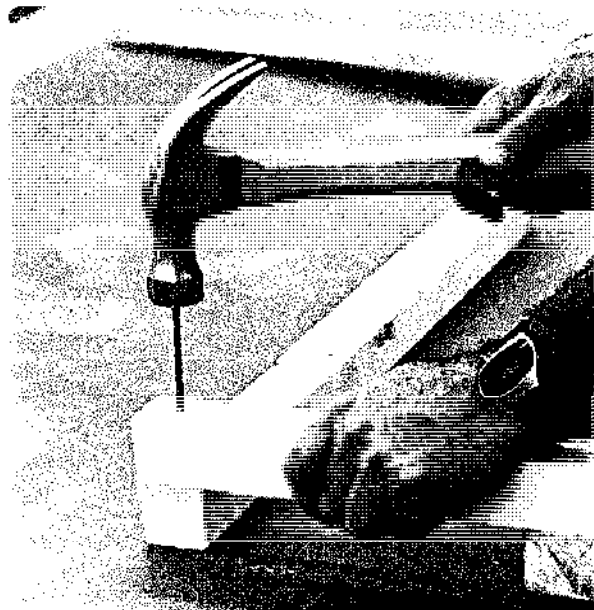

Fig. 11-25 Starting a nail.
4. Hold the nail between the thumb and forefinger. Place it in location and point it in the direction in which it is to be driven. See figure 11-25.